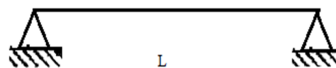

Figure 11
- (b) Consider the simply supported beam shown in Figure 11. Let the length $L = 1\text{ m}$, $E = 2 \times 10^{11}\text{ N}/\text{m}^2$, area of cross section $A = 30\text{ cm}^2$, moment of inertia $I = 100\text{ mm}^4$, density $\rho = 7800\text{ kg}/\text{m}^3$. Determine the natural frequency using lumped mass matrix approach. [7M]